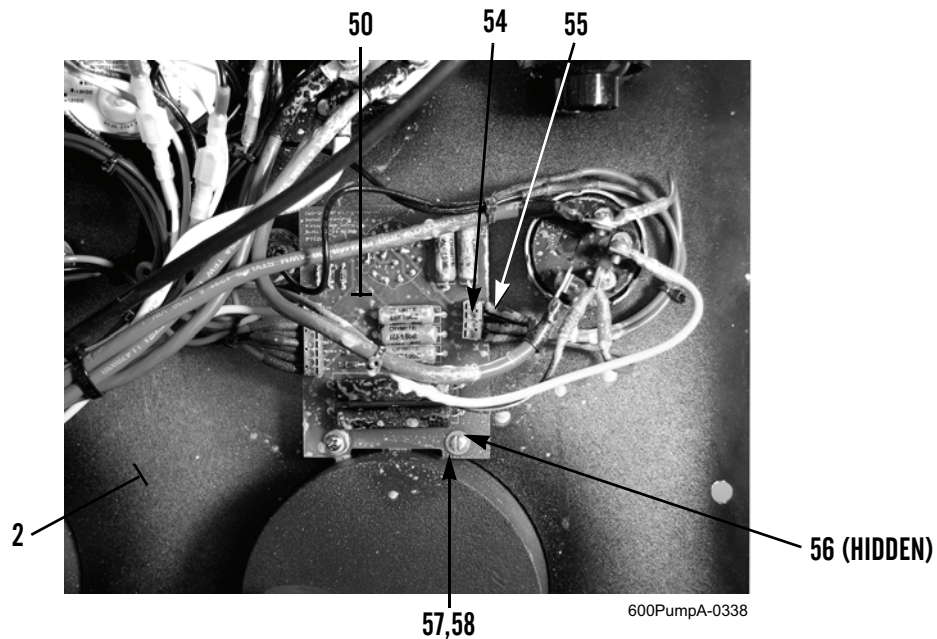

Figure 18. Blackout Light Switch.
3. Loosen screws (Figure 18, Item 54) and disconnect wires (Figure 18, Item 55) from blackout light switch (Figure 18, Item 50).
4. Remove two screws (Figure 18, Item 57), washers (Figure 18, Item 58), and spacers (Figure 18, Item 56) from blackout light switch (Figure 18, Item 50).
5. Remove blackout light switch (Figure 18, Item 50) from panel (Figure 18, Item 2).
1. Install blackout light switch (Figure 18, Item 50) on panel (Figure 18, Item 2).
2. Install two spacers (Figure 18, Item 56), washers (Figure 18, Item 58), and screws (Figure 18, Item 57) on panel (Figure 18, Item 2).
3. Connect wires (Figure 18, Item 55) to blackout light switch (Figure 18, Item 50) and tighten screws (Figure 18, Item 54).